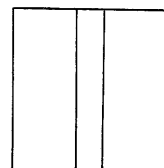

Figure 2.16
2. Position the metal so that the joint to be welded is in the vertical position. (See Figure 2.16.)